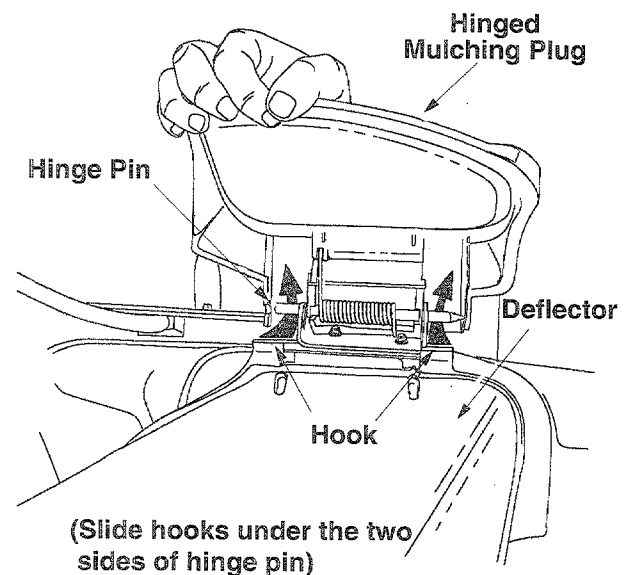

Figure 12
2. On the side of the mower, lift the hinged mulching plug. See Figure 12.